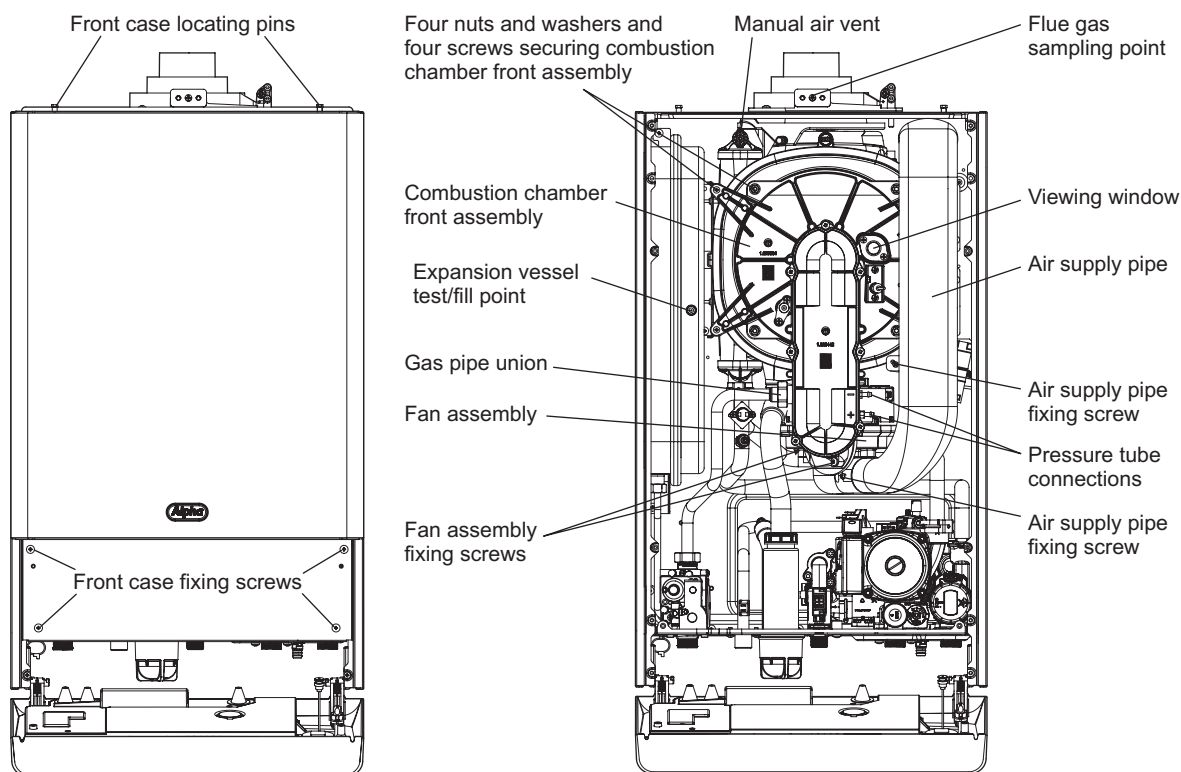

Fig. 28
Connect the flue gas analyser to the flue gas sampling point as shown in Fig. 28.
**Notes:** 1. Prior to servicing, it is recommended that a flue gas analyser is used to measure the performance of the boiler (refer to Fig. 28 for the position of the flue sampling point). If the CO/CO2 ratio measured is greater than 0.003 **or** when other checks and comments from the customer have indicated that there may be problems, cleaning of the heat exchanger will be necessary. All Sections 6.1, 6.2, 6.3 and 6.4 **must** be carried out. Repeat the flue gas analyser test after reassembling the boiler and check that the CO/CO2 ratio is less than 0.003.
3. Refer to Fig. 28 for location of flue sampling point.
### 6.2 PREPARE FOR SERVICING - Fig. 28
### 7.1 GENERAL ACCESS - Fig. 28
### 7.5 BURNER INJECTOR - Fig. 28
## 7.6 FAN - Fig. 28
2. Remove the two screws securing the air supply pipe (see Fig. 28) and remove the pipe.
3. Unplug the fan plug and remove the two screws securing the fan to the combustion chamber front (see Fig. 28).
2. Remove the screw securing the air supply pipe (see Fig. 28) and remove the pipe.